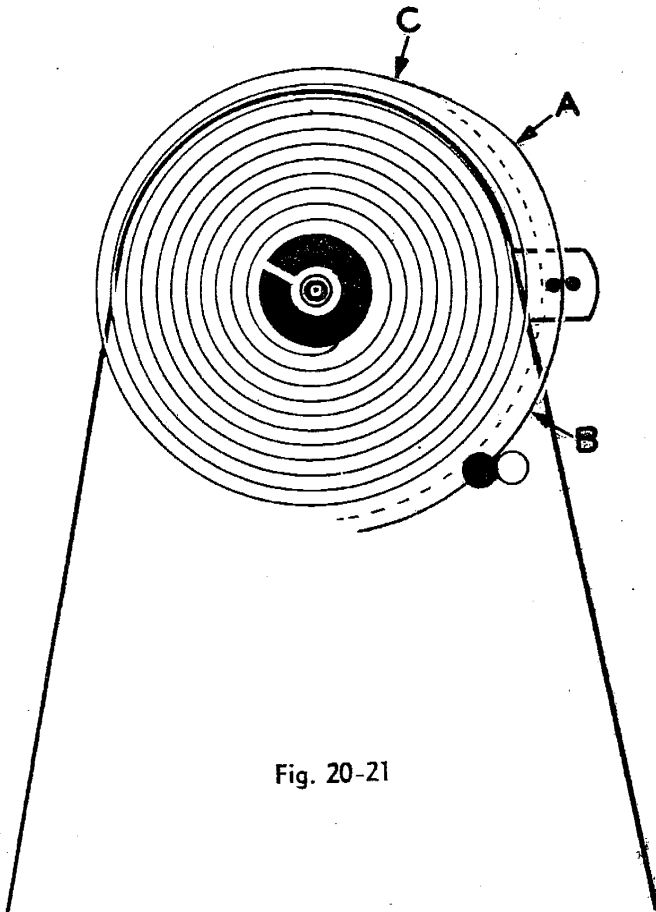

Fig. 20-21
4. Now center the hairspring. This means to place it so the outer coil falls between the regulator pins and the center of the collet is directly over the hole in the balance jewel. Invert the balance cock and lay the hairspring with the collet center over the pivot hole of the balance jewel. The outside coil will probably appear as shown in the dotted line in figure 20-21.
5. Place the hairspring on a ground glass plate. Grasp the outer coil at about C, figure 20-21, with a pair of fine pointed hairspring tweezers. Now take a taper pin and open the outer coil a little bit. Move your tweezers to A